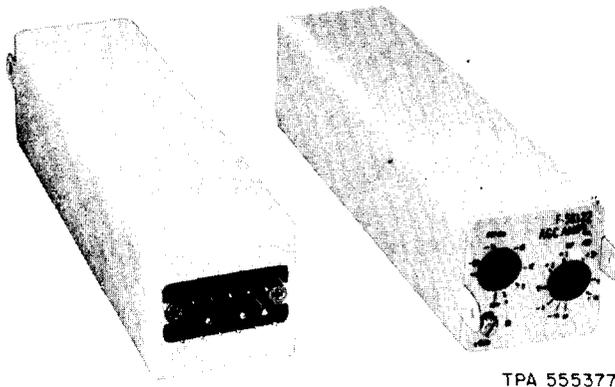

Fig. 1—F58122 Amplifier
**1.02** The F58122 amplifier (Fig. 1) is identical in size and connections to the 227-type amplifier. This amplifier is intended to be used in 24V4 and 44V4 repeaters for the purpose of limiting the inband signal power applied to Bell System facilities.